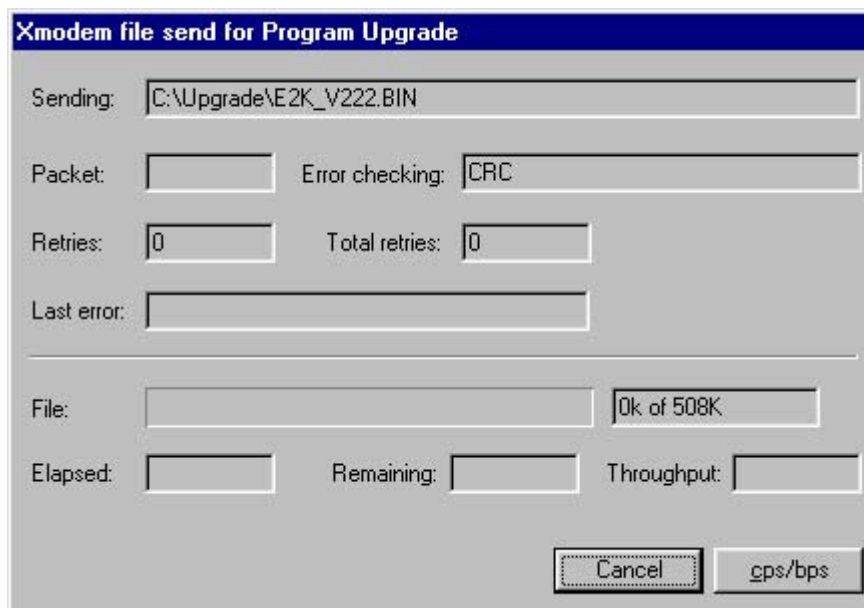

Fig. 9
10. Another window will coming up like shown in Fig. 9;